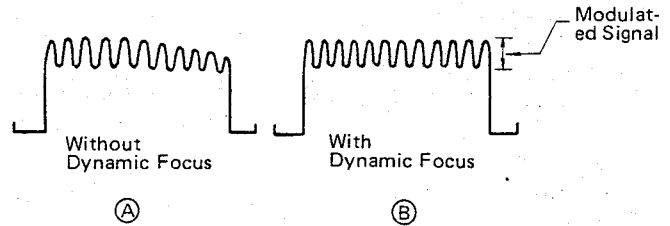

Fig. 28
of the pick-up tube into best focus so that the modulation depth for the center part and the edge portions of the pick-up tube differ. When the camera is directed at an evenly illuminated white object, the red and blue signals modulated at 3.58MHz do not have a uniform level, and as a result, a color shading appears (Fig. 28 A).
The dynamic focus correction circuit supplies horizontal (H) and vertical (V) sawtooth and parabola signals to the vidicon focus electrode (grid-4) together with the DC focus voltage from the high voltage circuit to focus the electron beam along the entire scanning area for correcting unevenness of modulation factor (Fig. 28 B).